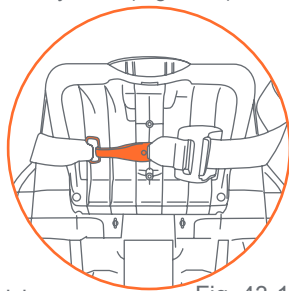

Fig. 43-1
2. Remove the Safety Seat from the base by squeezing the base release handle located under the center of the foot end of the Safety Seat and lifting upward on the Safety Seat (See Fig. 23-1). **Store both LATCH connectors as shown in Fig. 43-1.**
4. Remove the **LATCH** connectors from their storage position inside the base (Fig. 43-1). Place the Base in the rear-facing position in a forward facing vehicle seat as shown in Fig. 44-1. **The Child must face the rear of the vehicle and Safety Seat must be placed in a vehicle seat that faces forward.**